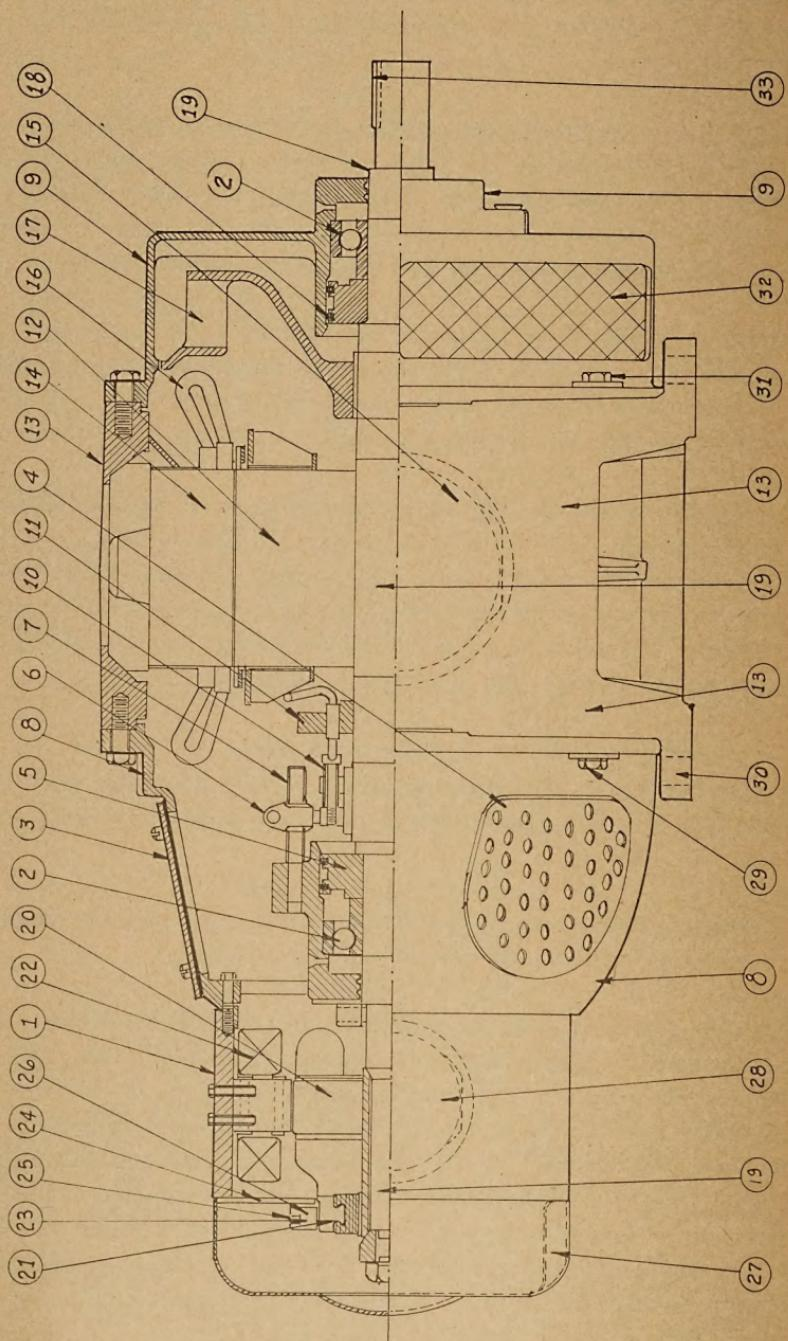

Figure 19. Alternator details.
53. GENERAL CARE OF ALTERNATOR (fig. 19).
a. Protection. (1) Protect the machine carefully against moisture, both before and after erection. Water or steam from leaking pipes, rain, snow, or condensation from the atmosphere should be excluded. It is particularly important to keep the windings [16, 22] dry since moisture
LEGEND FOR FIGURE 19.